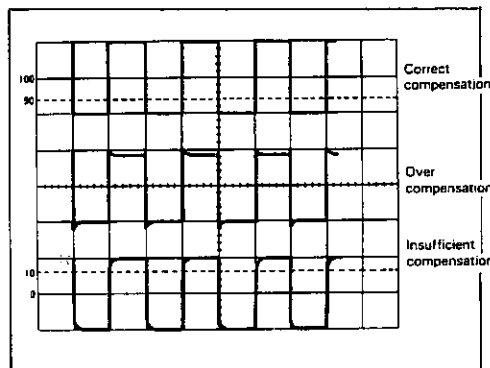

Fig. 10. Probe Compensation Adjustment.
4. Adjust compensation trimmer on probe for optimum square wave (minimum overshoot, rounding off, and tilt). Refer to Fig. 10.